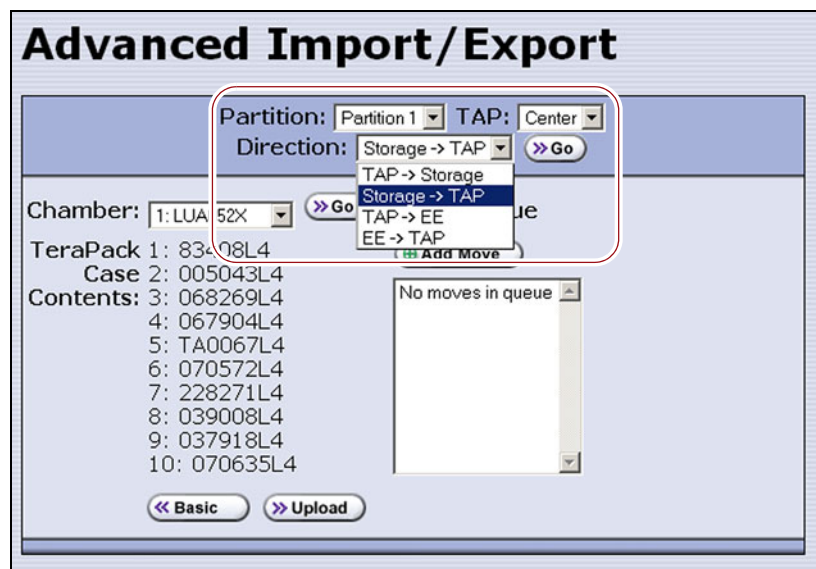

Figure 161 Select the partition, TAP, and the direction of the move.
- c. On the Advanced Import/Export screen (see Figure 161 on page 256), click **Upload**. The Upload Media Exchange Move List screen displays.